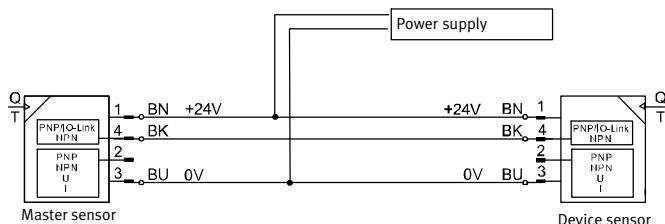

Fig. 14 Replicating parameters, using as an example SFAW-...PNLK-... / SFAW-...-PNVBA-...
- The master sensor is connected with the device sensor (→ Fig. 14).